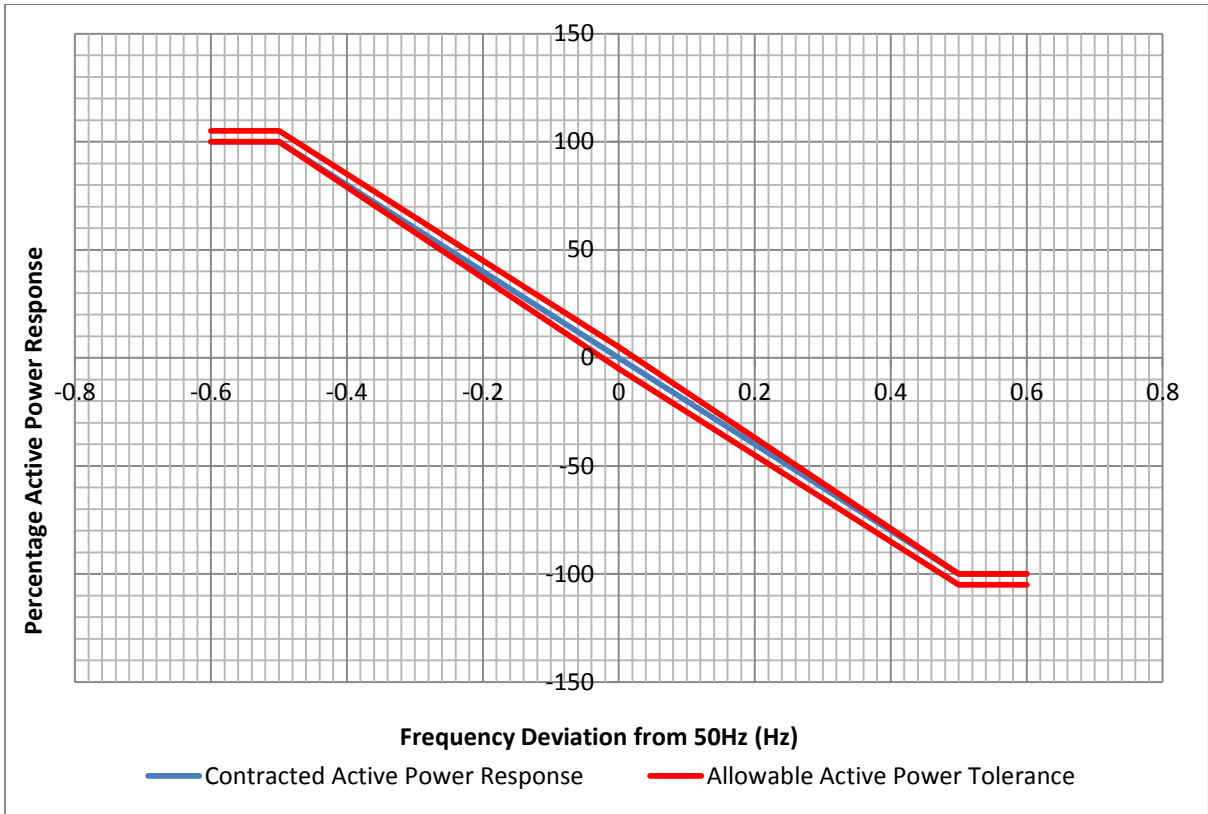

Figure 3.2 - Allowable Power Tolerance for a Negative Gradient Active Power Response
- Minimum of the sampled values of active power within primary, secondary and high frequency timescales are within the allowable tolerances given in Table 3.2 and shown graphically in Figures 3.2 and 3.3.